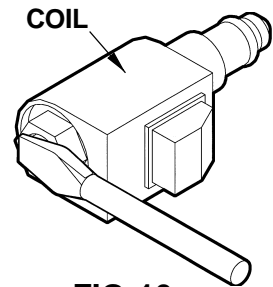

FIG. 10
3. Check if Solenoid Valve is getting power by holding a screwdriver against the top nut of the Solenoid. Push Control Switch to "LOWER" position to energize solenoid (FIG. 10). A good solenoid will attract (magnetically) the screwdriver to the nut and make it difficult to pull the screwdriver away from the nut.